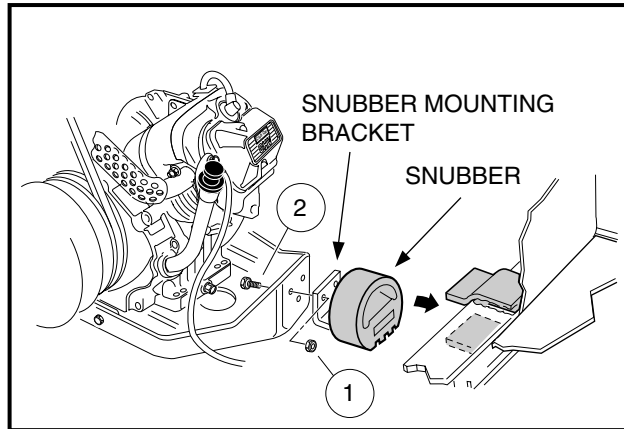

Figure 9-5 Snubber Brackets
2. Remove the two bolts (2) and two lock nuts (1) securing the snubber bracket to the engine mounting plate (**Figure 9-5, Page 9-8**).
2. Tighten snubber bracket mounting nuts (1) to 13 ft-lb (17.6 N-m) (**Figure 9-5, Page 9-8**).